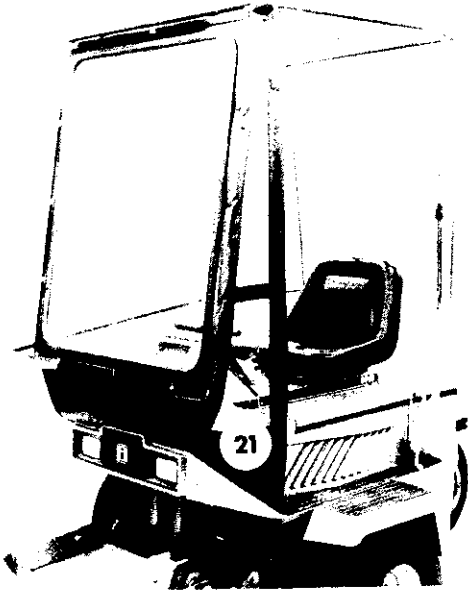

FIGURE 9
STEP 9; SEE FIGURE 9:
- A. Snap the FRONT PANEL VINYL (21) to the windshield. Close the snap flaps around the top frame, front post and front foot. Snap the center piece to the windshield support.